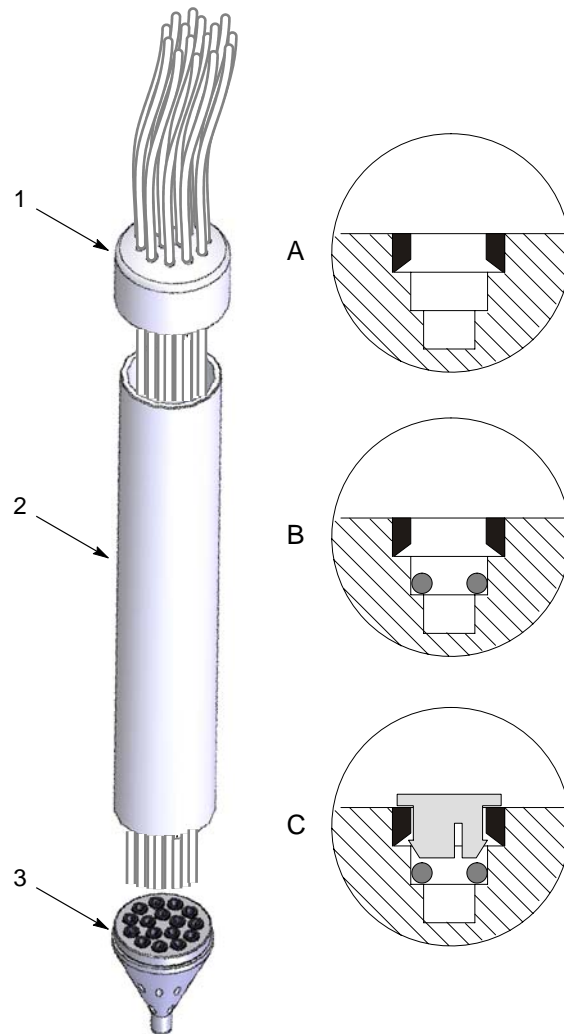

Figure 2 Powder Tube Fitting Replacement
1. See Figure 2. Pull the cap (1) off the body (2). Slide the cap several inches up the existing powder tubing.
2. Unscrew the body from the head (3). Pull the head away from the body to access the tube fittings.
6. Install the new fitting parts using these steps and the cross-section details in Figure 2.